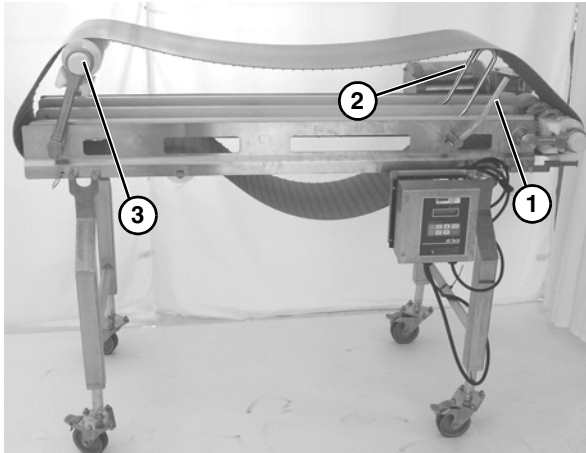

Figure 41
2. Use the lifter handle (Figure 41, item 1) to raise the lifters (Figure 41, item 2) and raise the tip up tail (Figure 41, item 3).